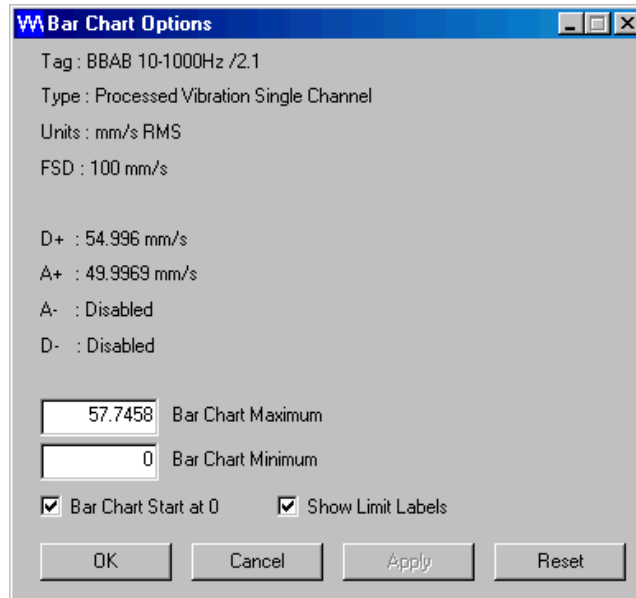
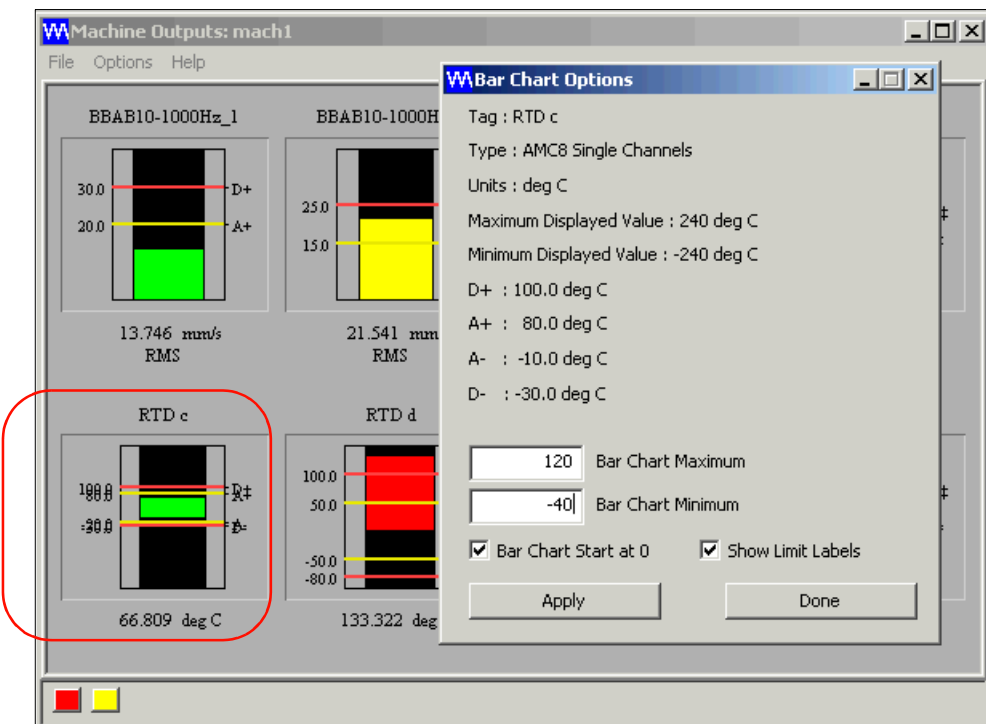

Figure 7-4: Bar Chart Options dialog box
Figure 7-6: Bar Chart Options dialog box for chart “RTD c”
The presentation of individual bar charts can be altered to improve their readability. To do this, first click the bar chart you want to modify. The Bar Chart Options dialog box appears (see Figure 7-4).
- 2- Click the bar chart (RTD c) to obtain the Bar Chart Options dialog box (see Figure 7-6). Note that originally in this example the **Bar Chart Maximum** field was set to 240 and the **Bar Chart Minimum** field to -240, as shown in Figure 7-4.
- 3- Select maximum and minimum values that are closer to the measurement range of interest. For example, in Figure 7-6 the **Bar Chart Maximum** field has been set to 120 and the **Bar Chart Minimum** field to -40.